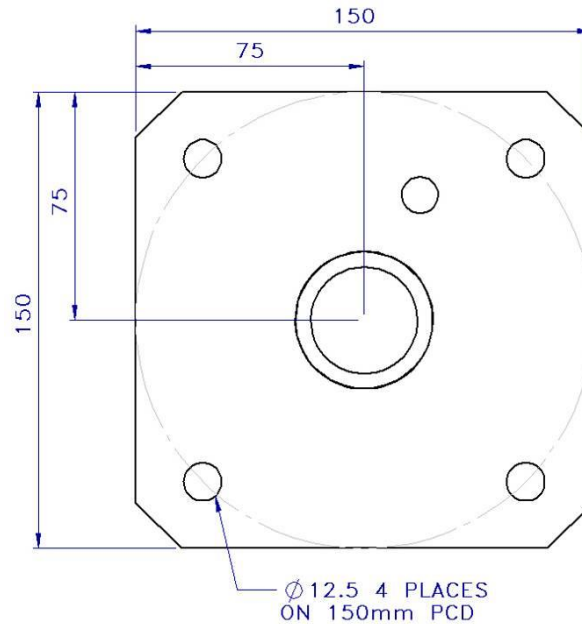

Figure 22 Stem Plate (Ceiling/Tandem Versions)
- With the Stem now cut to size, slide the End Cap onto the cut end until it is flush, Find the grub screw and tighten until the end cap is secured in position. See fig 22. Using the End Cap as a template mark through the 6 holes.